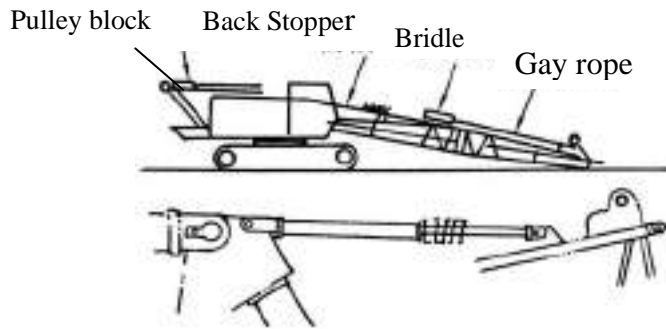

Fig. 7-5
6. Install boom stopper, as shown in Fig. 7-5.